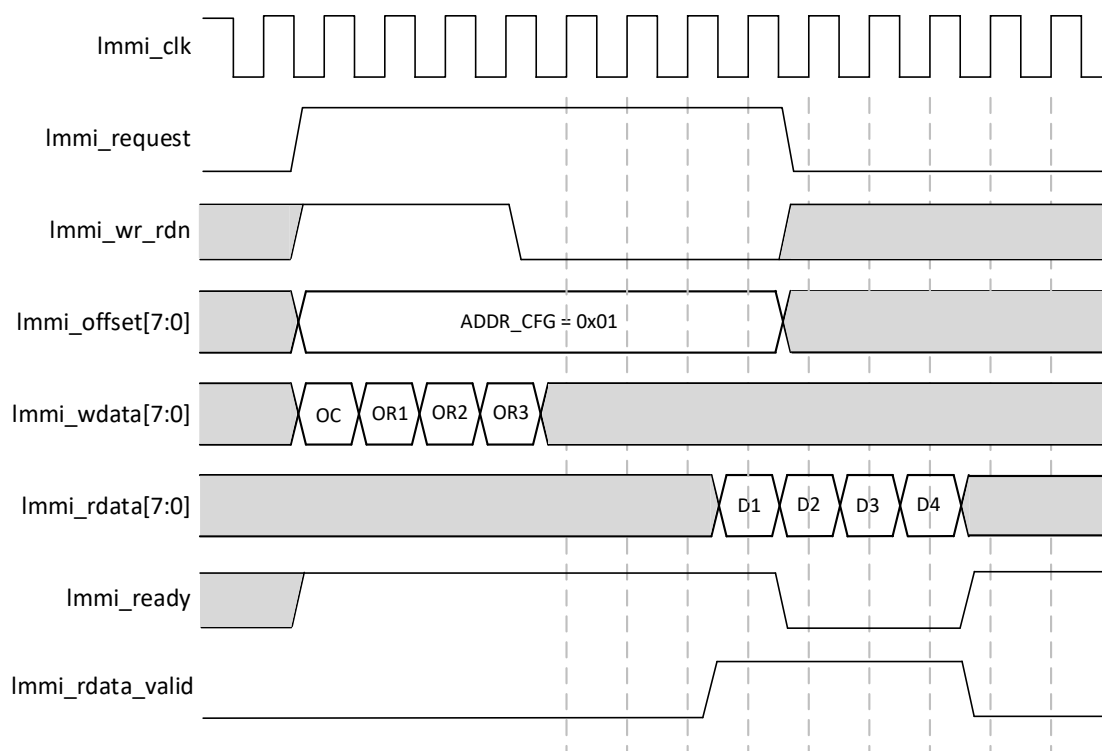
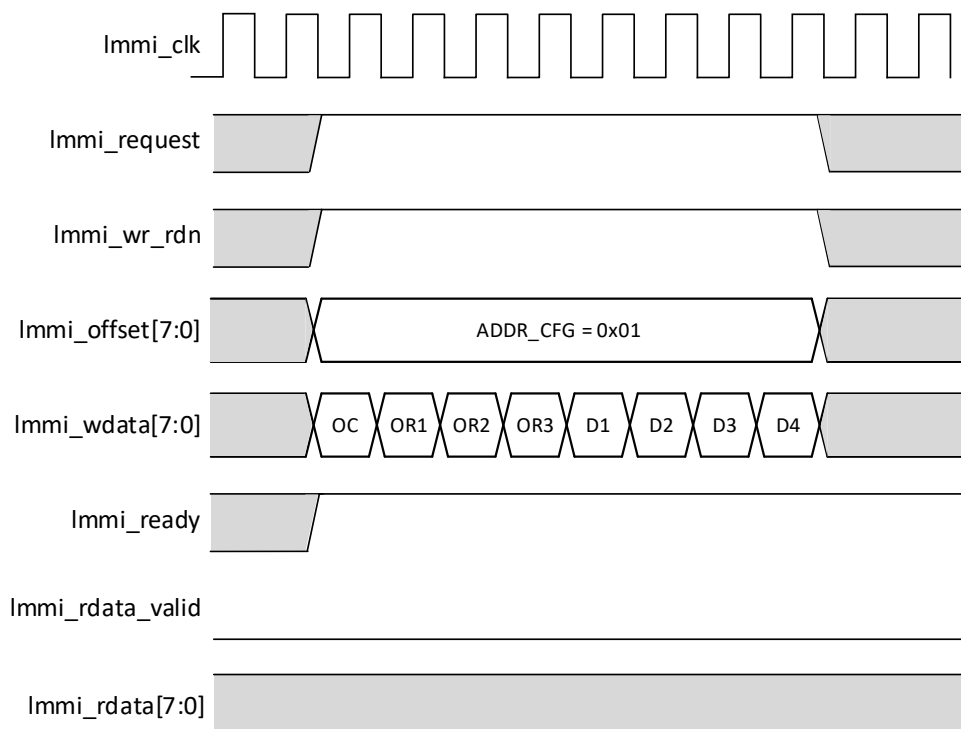
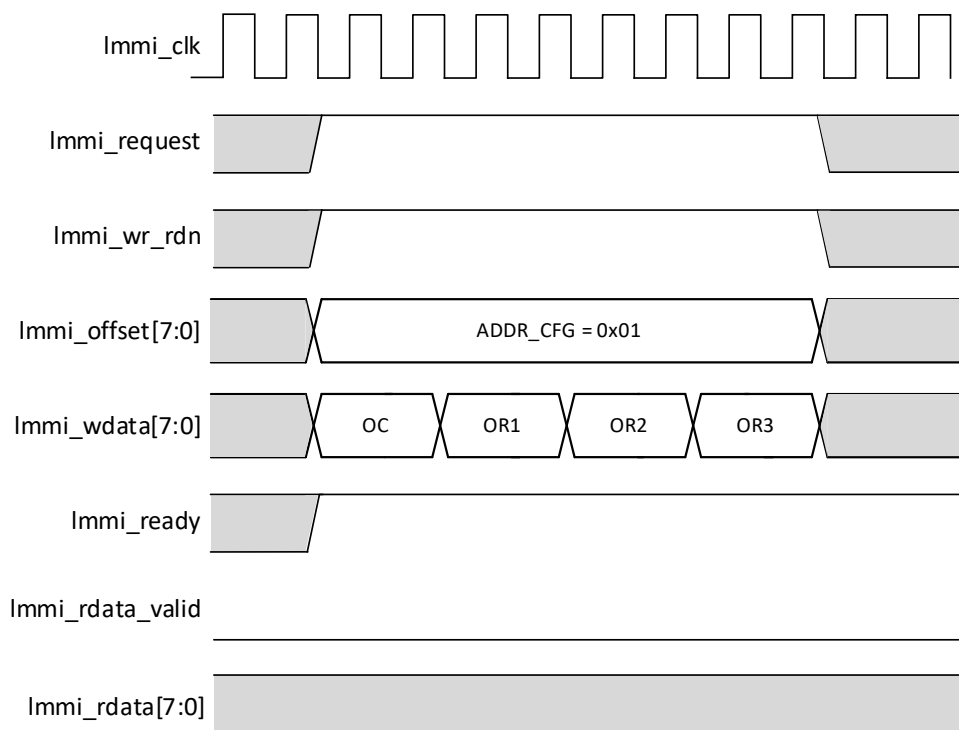

Figure D. 4. LMMI Class A Commands Execution
Figure D. 5. LMMI Class B Commands Execution
Figure D. 6. LMMI Class C Commands Execution
The CONFIG_LMMI(A) primitive has a hardware assigned `lmmi_offset` with `ADDR_CFG=0x01`. To execute slave configuration command, LMMI host should perform four back-to-back write transfers: 1 byte Opcode (OC), 3 bytes Operands, which are OPERAND1 – OPERAND3 (OR1 –OR3), followed by the optional data bytes. The Class A command, Class B command and Class C command execution are demonstrated in Figure D. 4, Figure D. 5, and Figure D. 6.